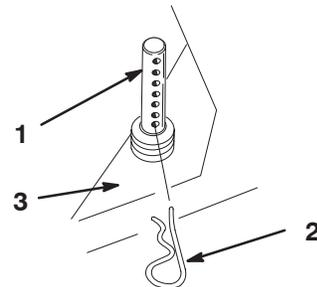

Figure 23
5. Lifting slightly on the deck handles, remove hairpin cotters from the height-of-cut posts and separate mower from carrier frame (Fig. 23).